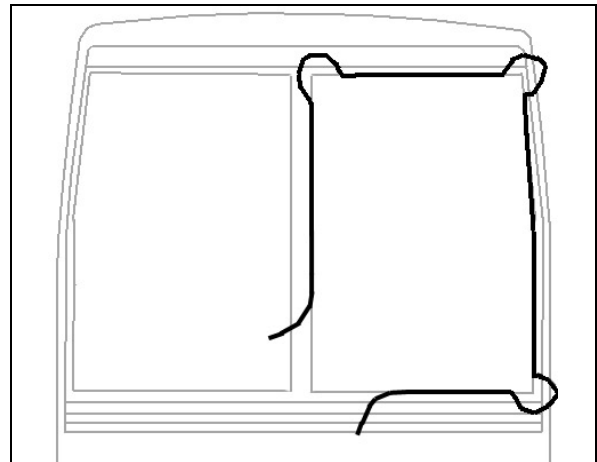

FIGURE 14: WINDSHIELD INSTALLATION USING ROPE
- Insert rope into rubber extrusion leaving enough length at each corner to make a loop. Spray soapy water onto rope and rubber extrusion (Fig. 14).